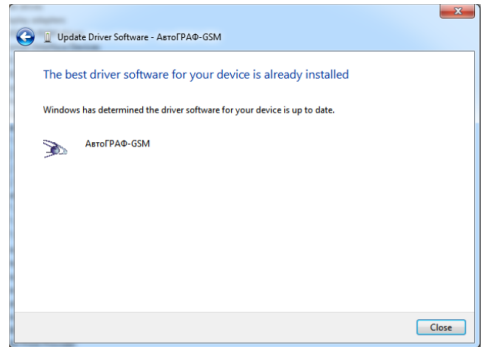

Figure 4.
6. Install the driver. When the driver is installed the system will automatically identify connected device (Fig.4).